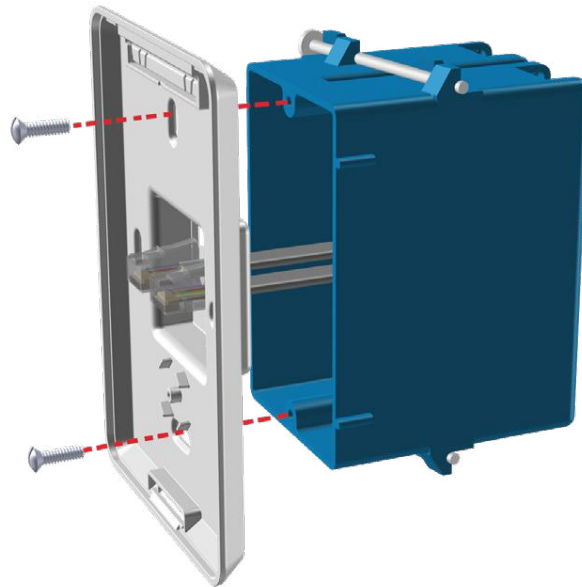

Figure 4. Back Plate Installation
4. See Figure 4. Install screws through the back plate into the gang-box.